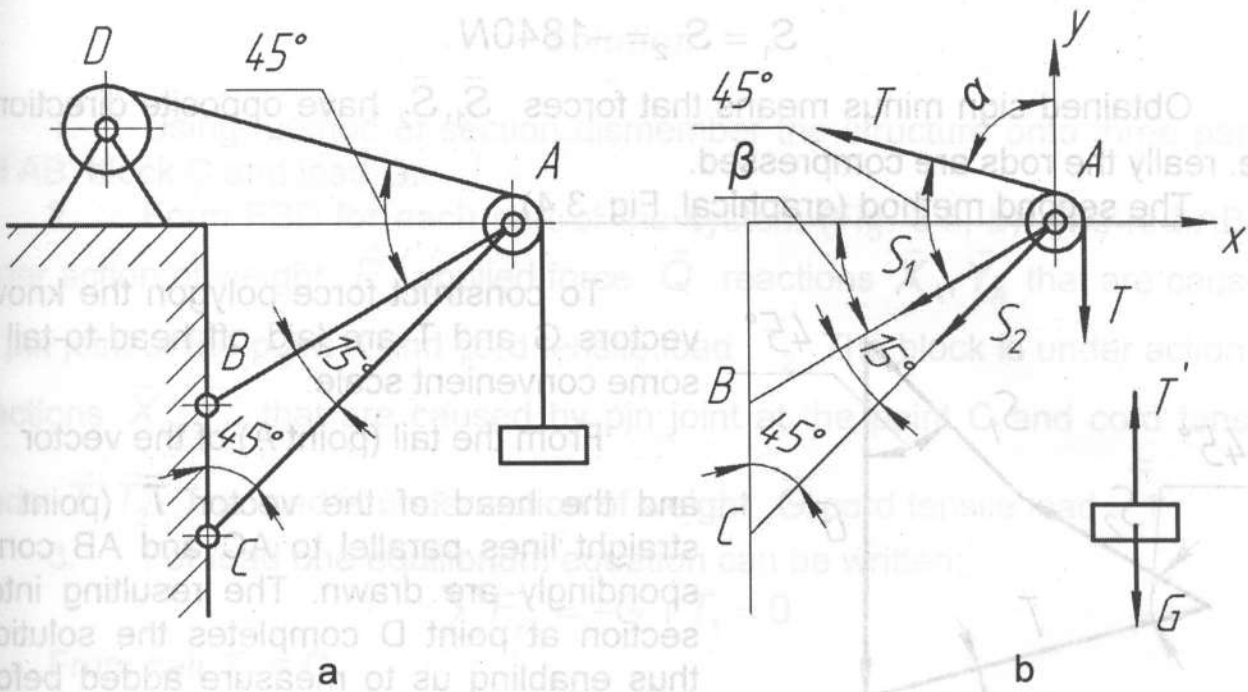

Fig. 3.3
A load of weight  $G = 3000\text{N}$  (Fig. 3.3, a) is hanged with the use of cord threw over block **A** and reeled on the winch **D**.
2. Form FBD for each part of the system (Fig. 3.3, b). The block is under action of reactions  $\vec{S}_1, \vec{S}_2$  that are caused by supporting rods (chosen directions of reactions  $\vec{S}_1, \vec{S}_2$  correspond to assumption about stretched state of the rods) and cord tension  $\vec{T}$ . The load is under action of weight  $G$  and cord tension  $\vec{T}' = -\vec{T}$ .